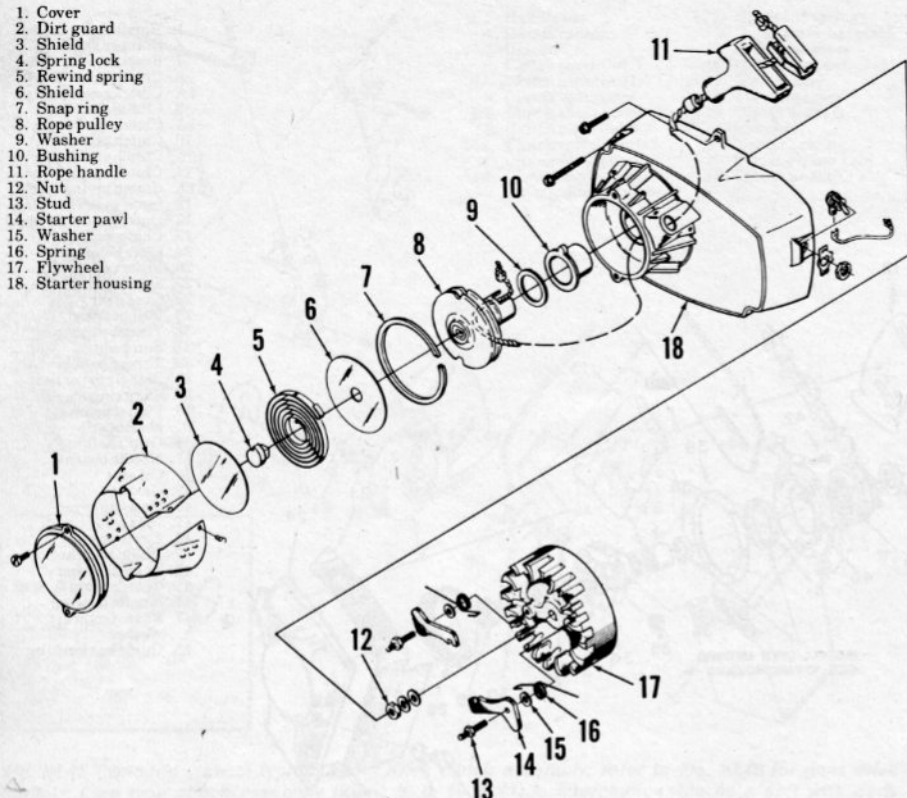

Fig. HL48—Exploded view of recoil starter used on model XL-400 Automatic.
REWIND STARTER. Starter used on model XL-400 Automatic is shown in Fig. HL48. Early and late starters used on other models are shown in Figs. HL49 and HL50.
XL-400 AUTOMATIC. To disassemble the starter used on XL-400 Automatic, remove cover (1—Fig. HL48) screws, then allow cover to turn slowly until spring tension is released. Remainder of disassembly is evident with inspection of unit. Starter housing (18) must be removed for access to pawls (14). Care should be taken to prevent rewind spring from uncoiling uncontrolled.
Refer to Fig. HL50A to correctly install starter dogs on flywheel. Rewind spring on XL400 Automatic is wound in clockwise direction in cover (1—Fig. HL48). Wind rope on pulley so that pulley will engage inner hook of spring